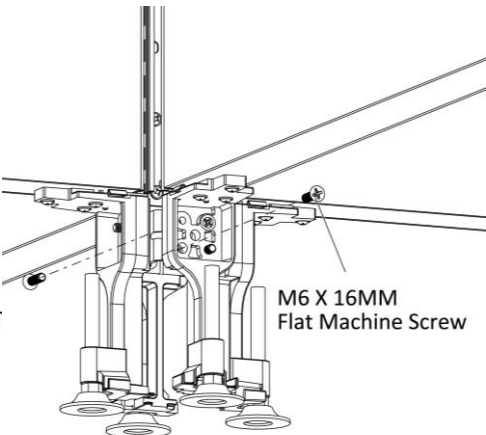

Figure 9
- Secure the base with two M6 X 16MM Flat Machine Screws, (Figure 9).